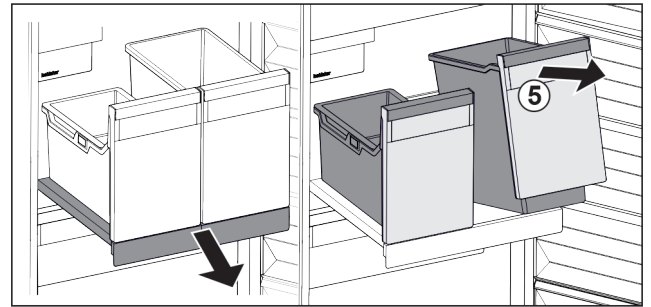

Fig. 191
- Lift the container *Fig. 191 (5)* at the front.